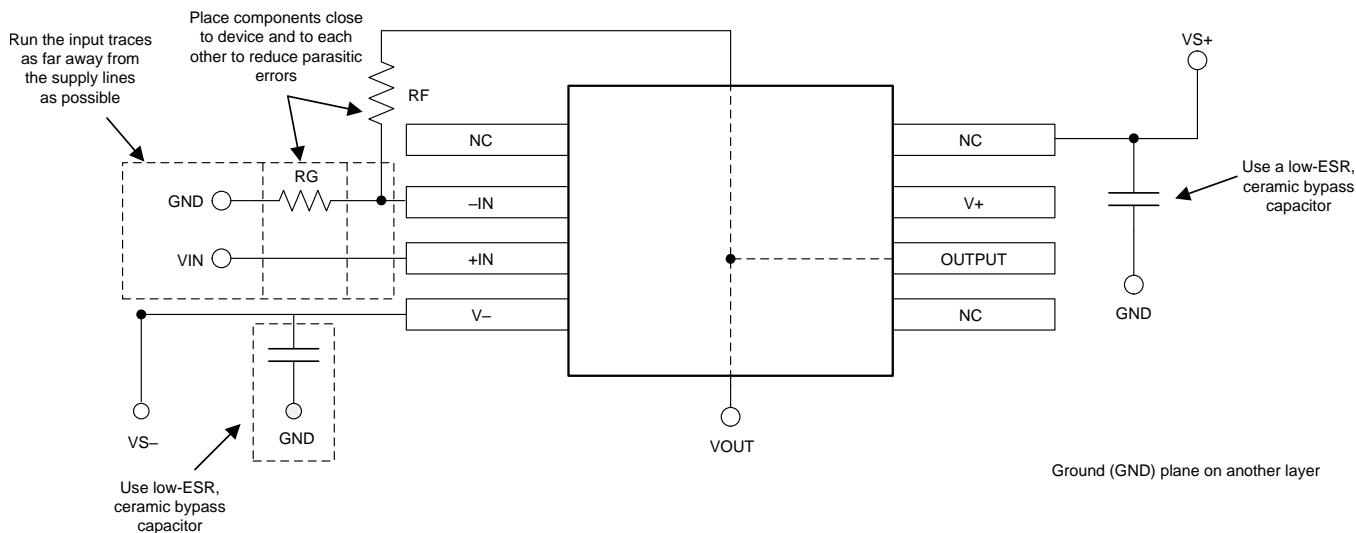

Figure 54. Operational Amplifier Board Layout for Noninverting Configuration
- Place the external components as close to the device as possible. As illustrated in Figure 54, keeping RF and RG close to the inverting input minimizes parasitic capacitance.